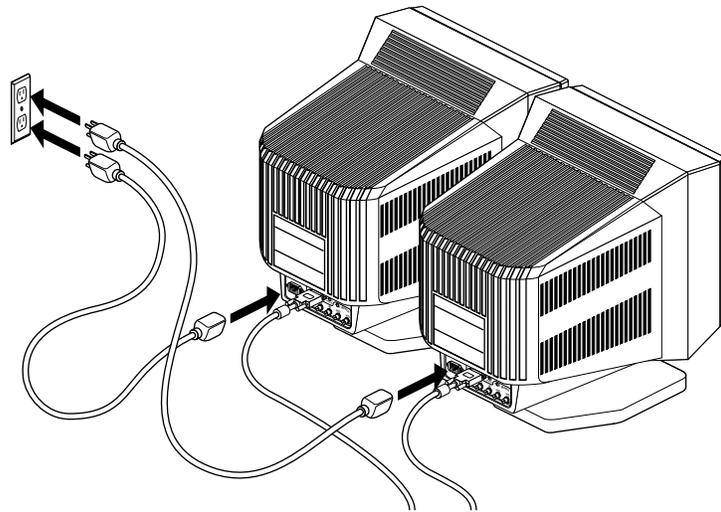

Figure 2-5 Connecting the Monitors' Power Cables
1. Connect the female end of the power cable to the power connector on the back of the monitor (Figure 2-5).